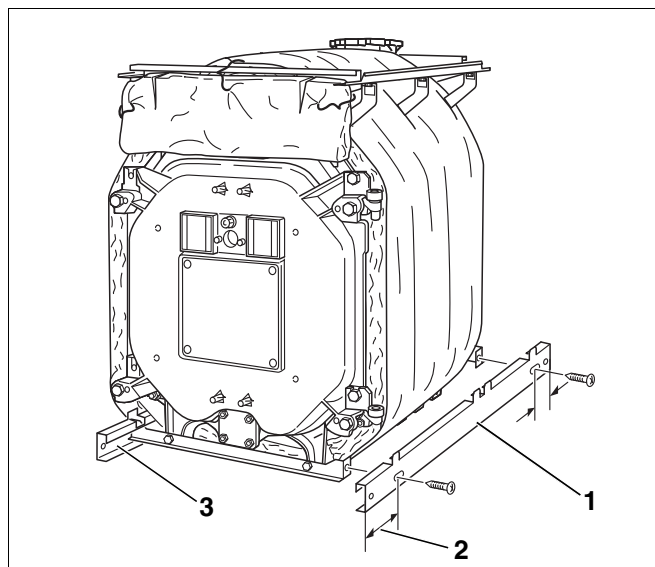

Fig. 47 Mounting the side base rails
- ▶ Hook each base rail (Fig. 47, [1] and [3]) with the long projection facing towards the front (Fig. 47, [2]) into the bottom cross bars.